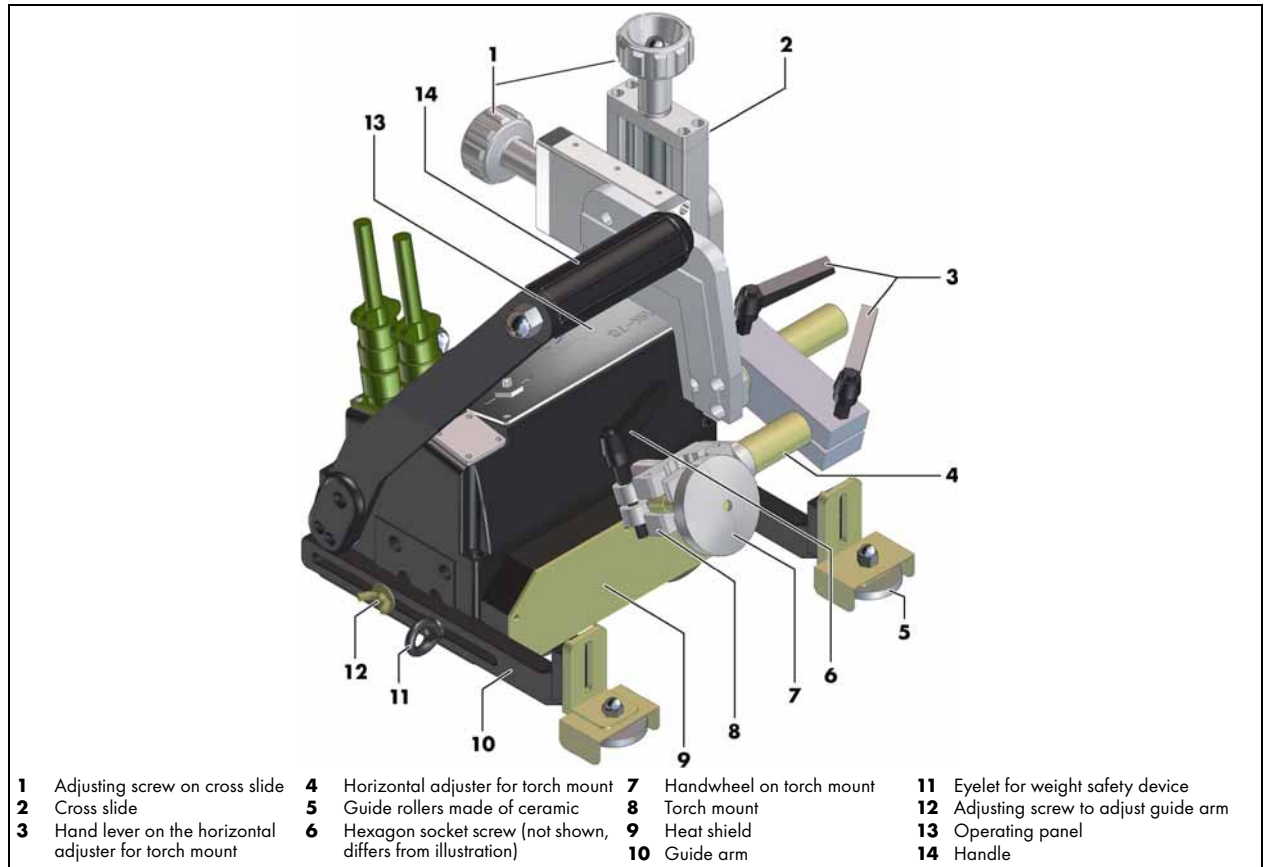

Fig. 2 Overview of ABI-CAR E-1200 – rear view
The welding tractor can be quickly and easily positioned to accommodate the seam to be welded. The welding tractor is moved by either pressure applied to the guide rollers (**5**) (Fig. 2) or it is moved along guide rails that can be purchased separately.
- Never operate the welding tractor without a mounted heat shield **(9)** (Fig. 2).